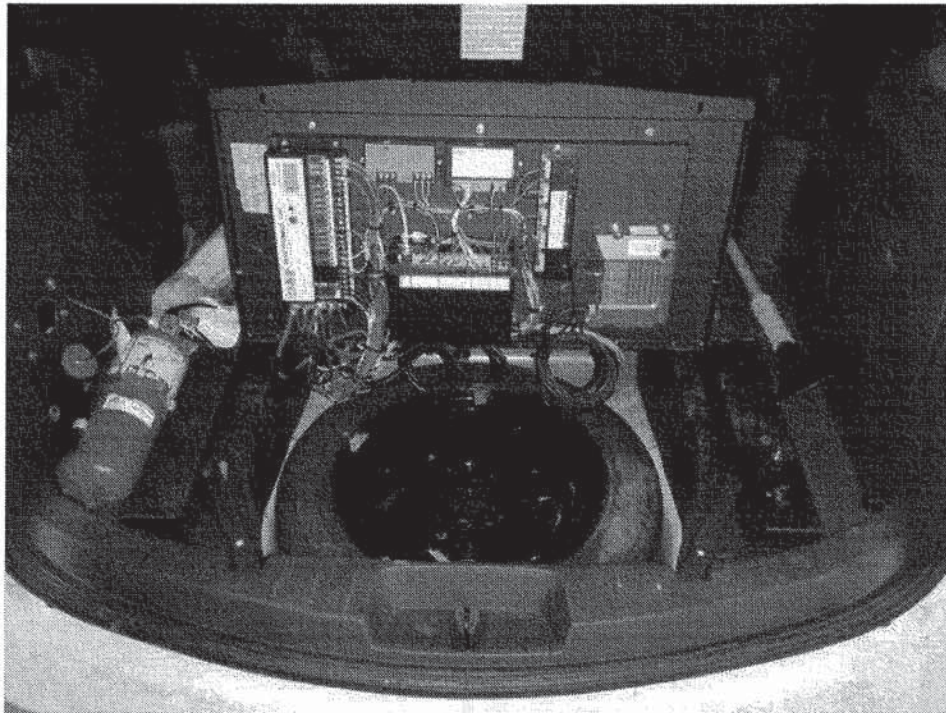

Figure 29 – D&R Electronics - Electronics Sub Panel Mount installation
45. Example of Electronics Sub Panel Mount for a Ford Police Interceptor Utility marked MP vehicle is illustrated at *Figure 29*.